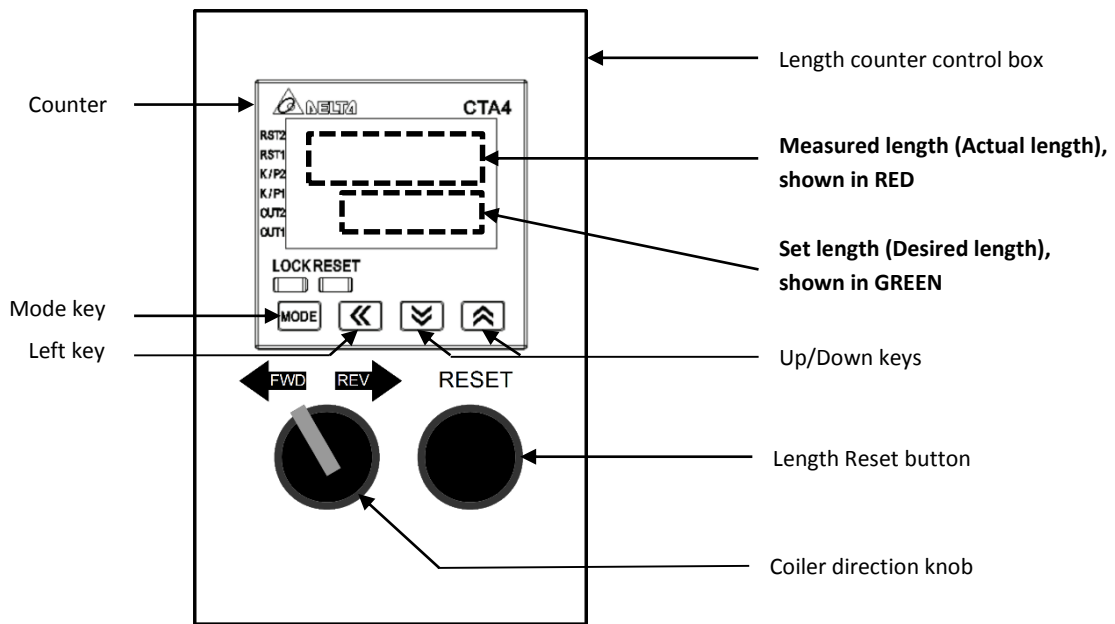

Figure 12: Length counter unit control box
5. Write down the measured length shown on the counter control display (see Figure 12).
The coiler is fitted with a control box with a direction knob (see Figure 12 in the previous section). To turn the coiler in the forward direction, turn the knob to FORWARD while the coiler is stationary.